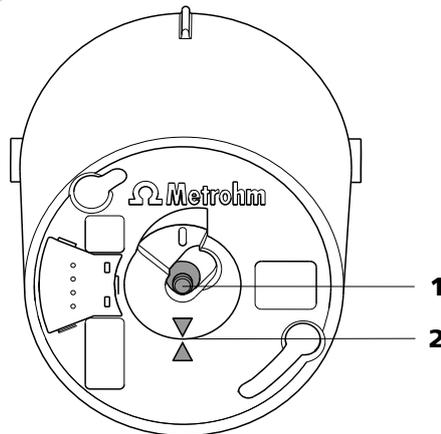

Figure 14 807 Dosing Unit from above
- If necessary, rotate the centering tube(14-1) by hand until they are in the correct position (see Figure 14, page 22).